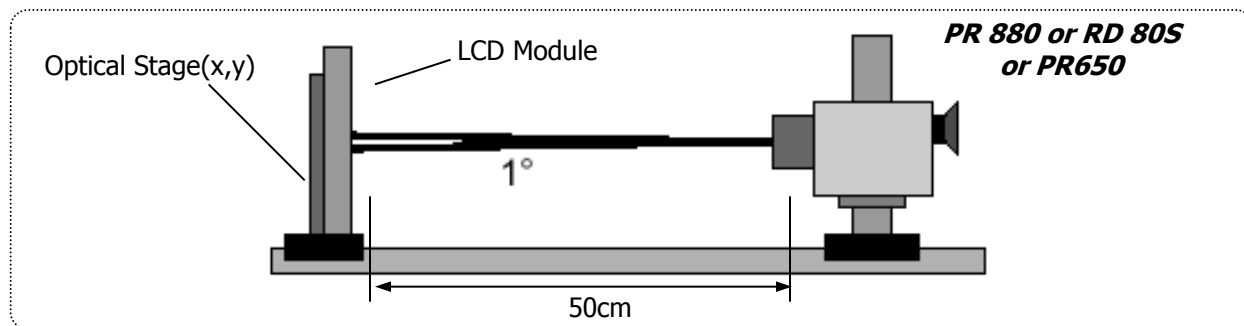

FIG.7 Optical Characteristic Measurement Equipment and Method
2. Surface luminance(L_{WH}) is luminance value at Center 1 point(P1) across the LCD surface 50cm from the surface with all pixels displaying white. For more information see FIG.7 **(By PR880)**